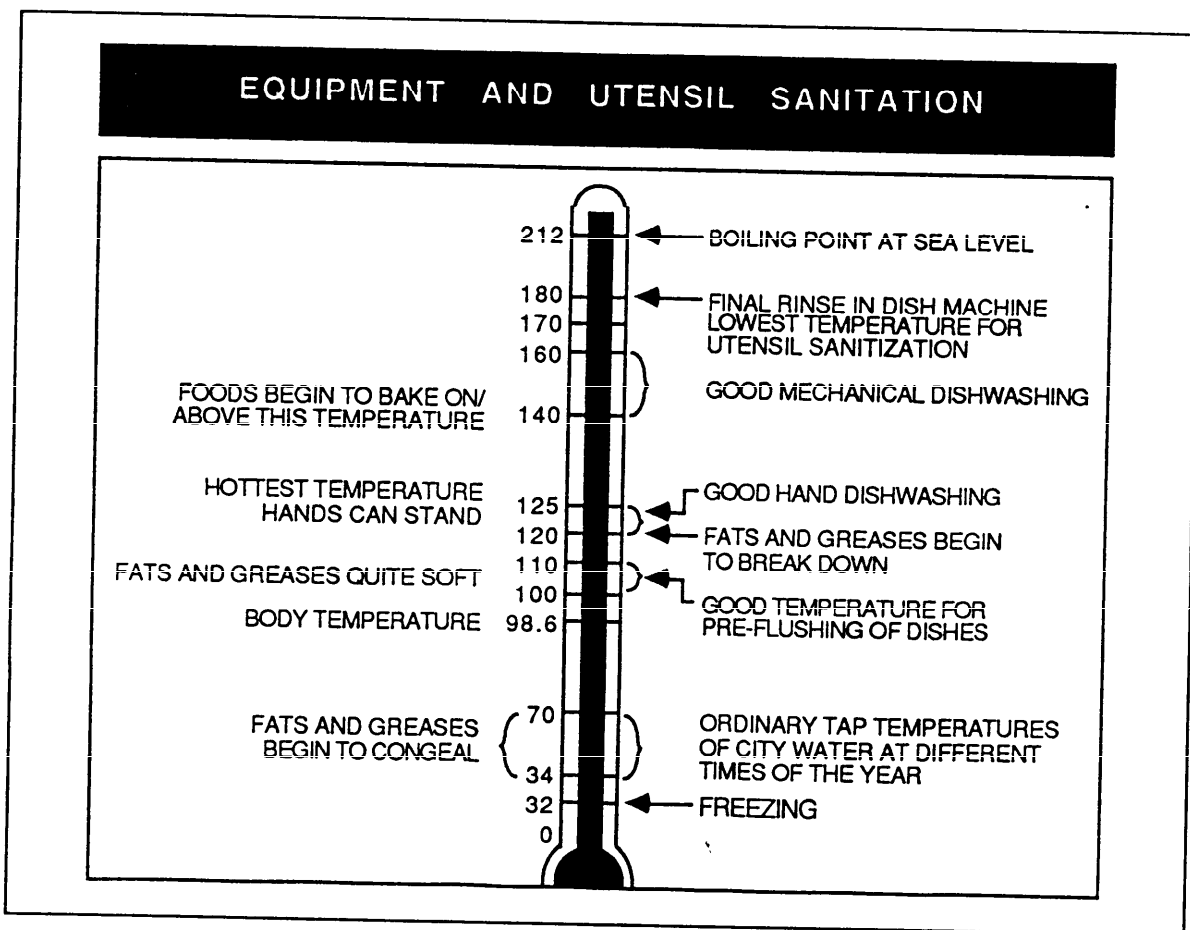

Figure 1
2.1 Objective and Implementation. This section reviews general health, safety, and environmental issues as they relate to the operation and maintenance of food service equipment. Food service equipment must meet very rigid performance standards and maintenance requirements to ensure food quality. Many of these standards deal with effective bacteria treatment and prevention of food contamination. Maintenance personnel need to be well acquainted with details from the Manual of Naval Preventive Medicine to promote a healthy atmosphere. The single most important consideration in the maintenance of food service equipment is cleaning. Cleaning ensures proper sanitation and prevents a decrease in equipment performance. See Figure 1 below and Appendix A for further guidance and references.
- b) Verify dishwasher temperature monthly to assure dishwasher thermometer accuracy. It is essential that proper water temperatures are used to maintain sanitary standards. Maintain a minimum final rinse temperature of 180 degrees F (see Figure 1).